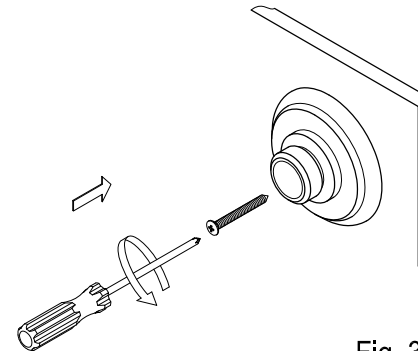

Fig. 3
- Step 4. Screw the wall bracket base into the wall with mounting screws, place the round cover over base and slide bracket in (fig. 3).